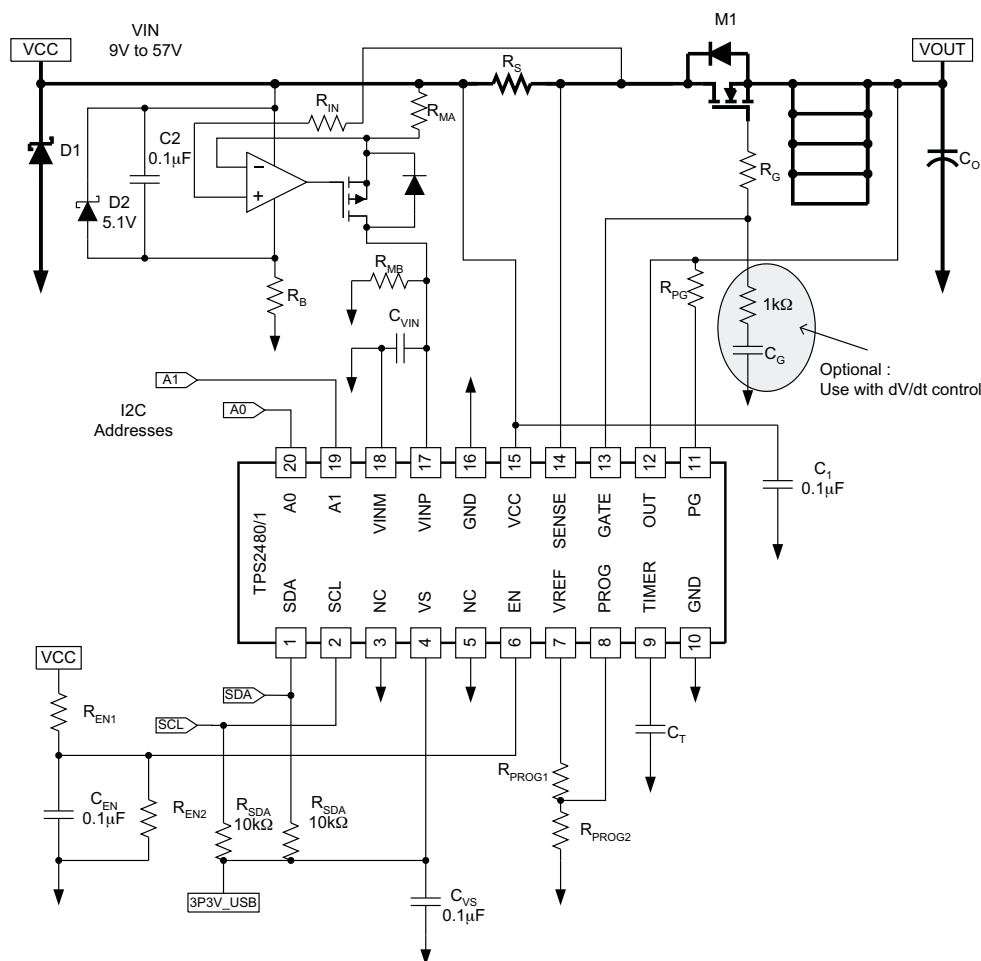

Figure 19. TPS2480/81 High Voltage Application
The TPS2480/81 can be used to monitor current from a voltage source greater than 26 V by using the OPAMP circuit shown in Figure 19.
(2) Read data is from the last register pointer location. If a new register is desired, the register pointer must be updated. See Figure 19.
(3) ACK by Master can also be sent.